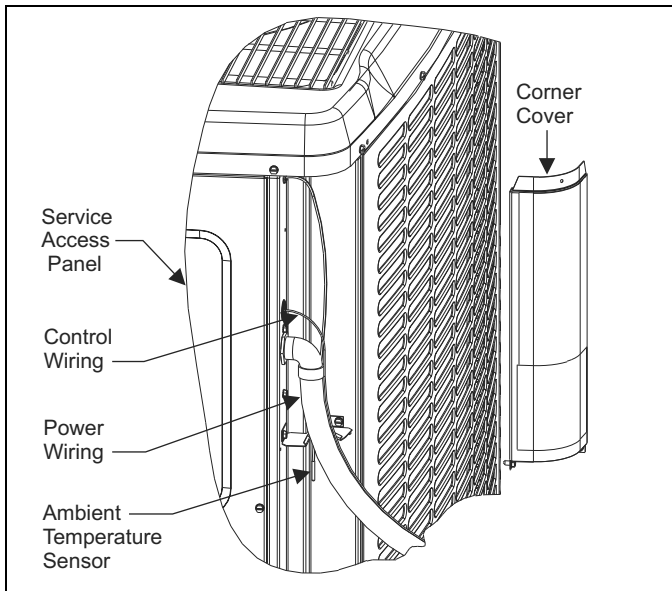

FIGURE 5: Typical Field Wiring
2. Remove the screws at the bottom of the corner cover. Slide corner cover down and remove from unit. See Figure 5 "Typical Field Wiring".